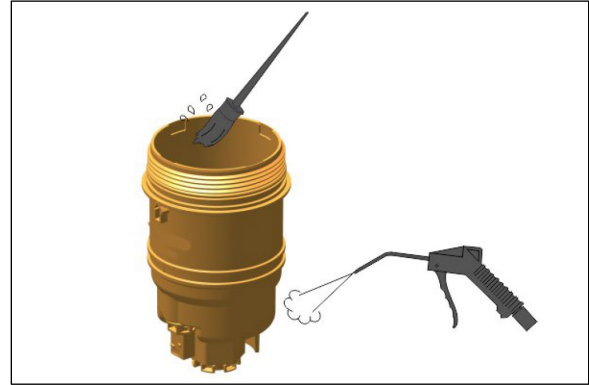

FIGURE 8
The Fuel Pro 386 (Figure 8) fuel processor is installed between the fuel tank and the main fuel filter and is used as the primary fuel filter/fuel water separator. This system also serves as a water separator and is equipped with heating for winter conditions. *Davco Technical Manual F1387* is available on Prevost Technical Publications site.
2. Close the shut-off valve on the “fuel in” side of the fuel filter (**FIGURE 8**).
3. Remove the vent cap & vent cap O-ring (A).
4. Open the drain valve (I) a minimum of 3 turns and drain the fuel completely from the unit.
6. Untighten the collar (E), remove clear cover with filter spring (D), filter element and cover O-ring (B).